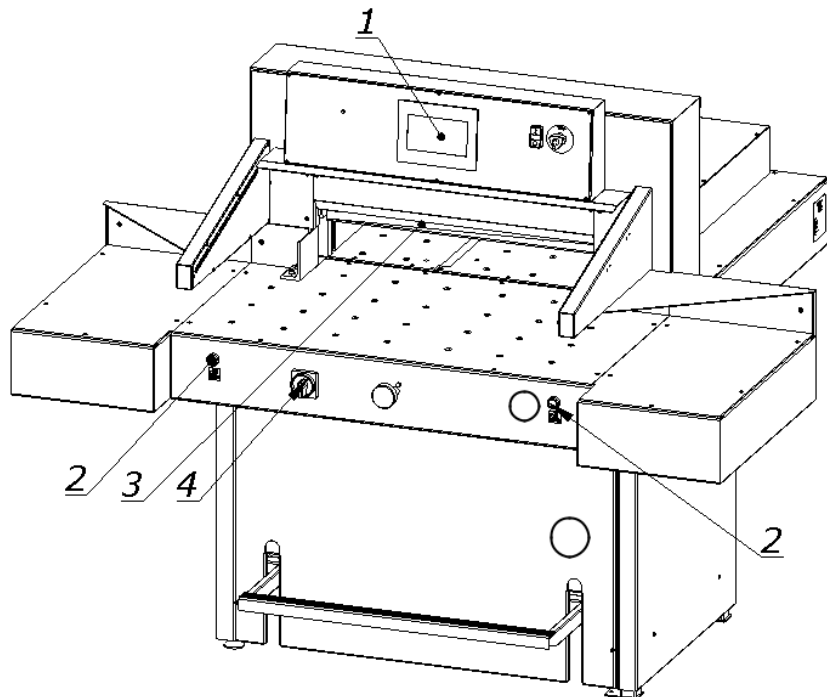

Figure 21
8.1.1.1 Select the "Change knife" function on the programmer 1 screen (Fig.21) ("Programmer's manual").
8.1.1.3. Turn off the power supply of the electrical system by turning the main switch knob 4 (fig.21) to the "0" position